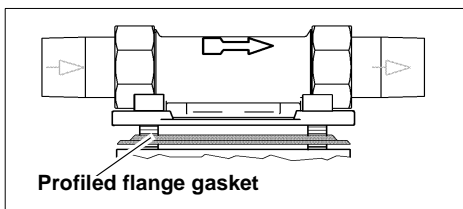

Fig. 9: Built-in rotary flange
- 6 Remove and replace the used seal. The profiled side of the seal must be pointing towards the flange. Failure to observe this can lead to leakage and water damage (see Fig.9).